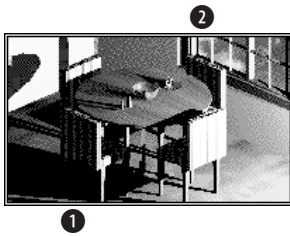

Figure 27-10: Clipping the raster image
Specify first corner point: *If OSNAP is on, turn it off. Pick ① in Figure 27-10.*